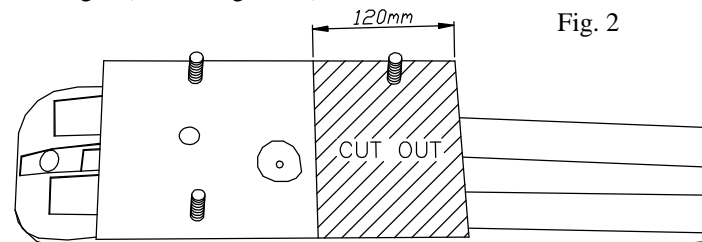

Fig. 2
3. Disassemble the bumper together with its aluminium reinforcement. Remove the adjustment wedges at the left and right (will not be assembled again). Cut out fragments inside of the bumper in accordance with fig. 2 (left and right side).